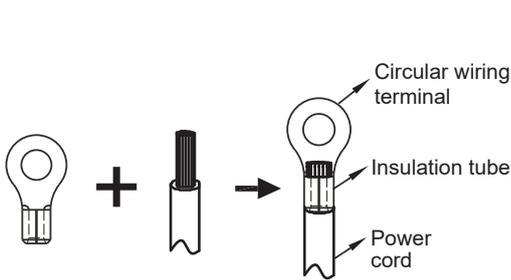

Figure 27.
- If water is drained through the indoor unit drain pump, loosen the water cover (black round plastic piece) on the unit during the drainage test and check whether the drain pump is operating. If the drain pump has not been started, check whether the drain pump has malfunctioned. Note: The drain pump only starts in cooling mode. While in heating mode, the drain pump remains turned off. After the water drainage test is completed, install the water cover assembly in position. For details on the water cover assembly and the water injection pipe. See Figure 27 below.
When connecting to the power supply terminal, use the circular wiring terminal with the insulation casing. See Figure 27.